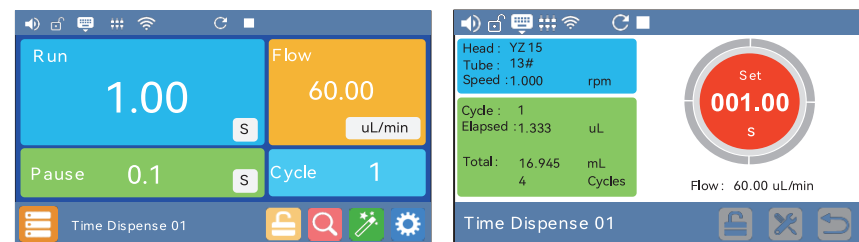
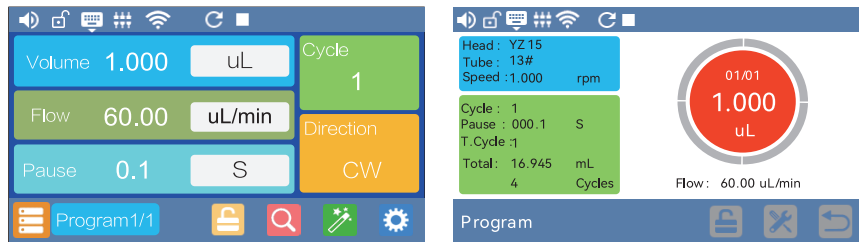

Figure 52 Time Dispensing Interface
Figure 53 Program Mode Interface
- When the power is cut off, connect the circuit according to figure 52 or figure 53, and connect the DB15 interface to the back interface of the pump.